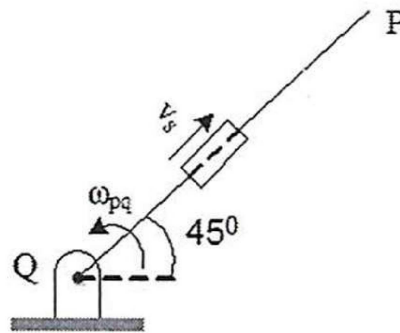

Fig. 2 (For Q. 7(a))
7. (a) What is Coriolis acceleration ? Find the direction of this acceleration in the case shown in Fig. 2. [4]